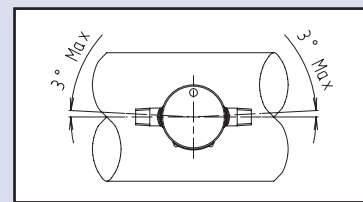

Figure 9
- 9) Ensure the direction arrow on the Flo-Bar Label (located on the headblock) is pointing in the same direction as the flow through the pipe. Also ensure that the Flo-Bar is within the rotation tolerance as detailed in figure 9 on page 7. Also detailed on the label is specific information relating to the order, the Flo-Bar was built under.